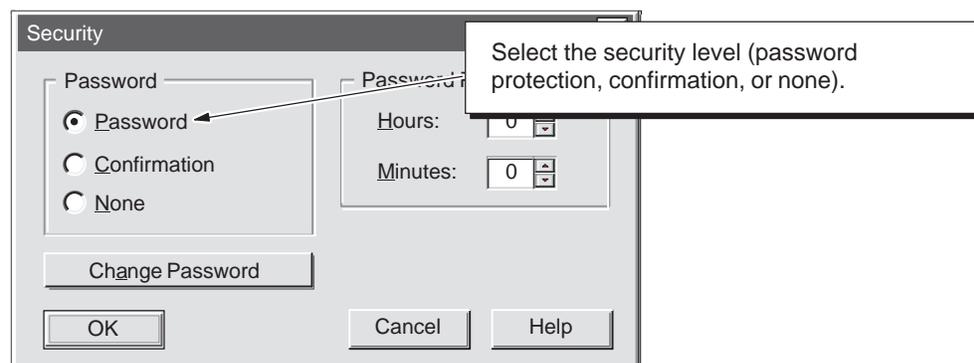

Figure 4-20 Setting the Security Level for WinLC
3. In the “Security” dialog box (Figure 4-20), click on the option for password (security level).